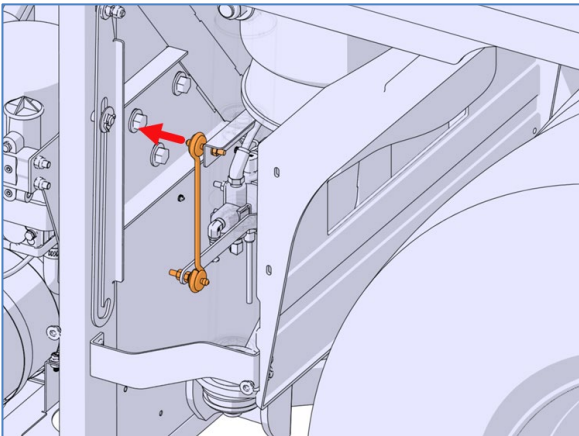
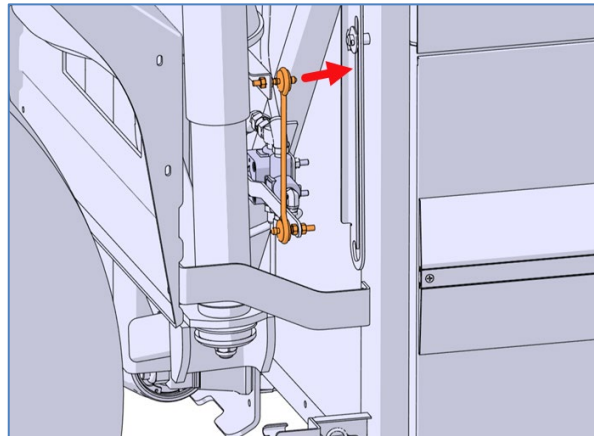

Figure 3: HEIGHT CONTROL VALVE ARM LINKAGE STREET SIDE
Figure 4: HEIGHT CONTROL VALVE ARM LINKAGE CURB SIDE
- 14) On each side of the vehicle, connect the upper end (rubber bushing) of the rear height control valve arm linkage (one per side). Refer to Figure 3 & Figure 4.